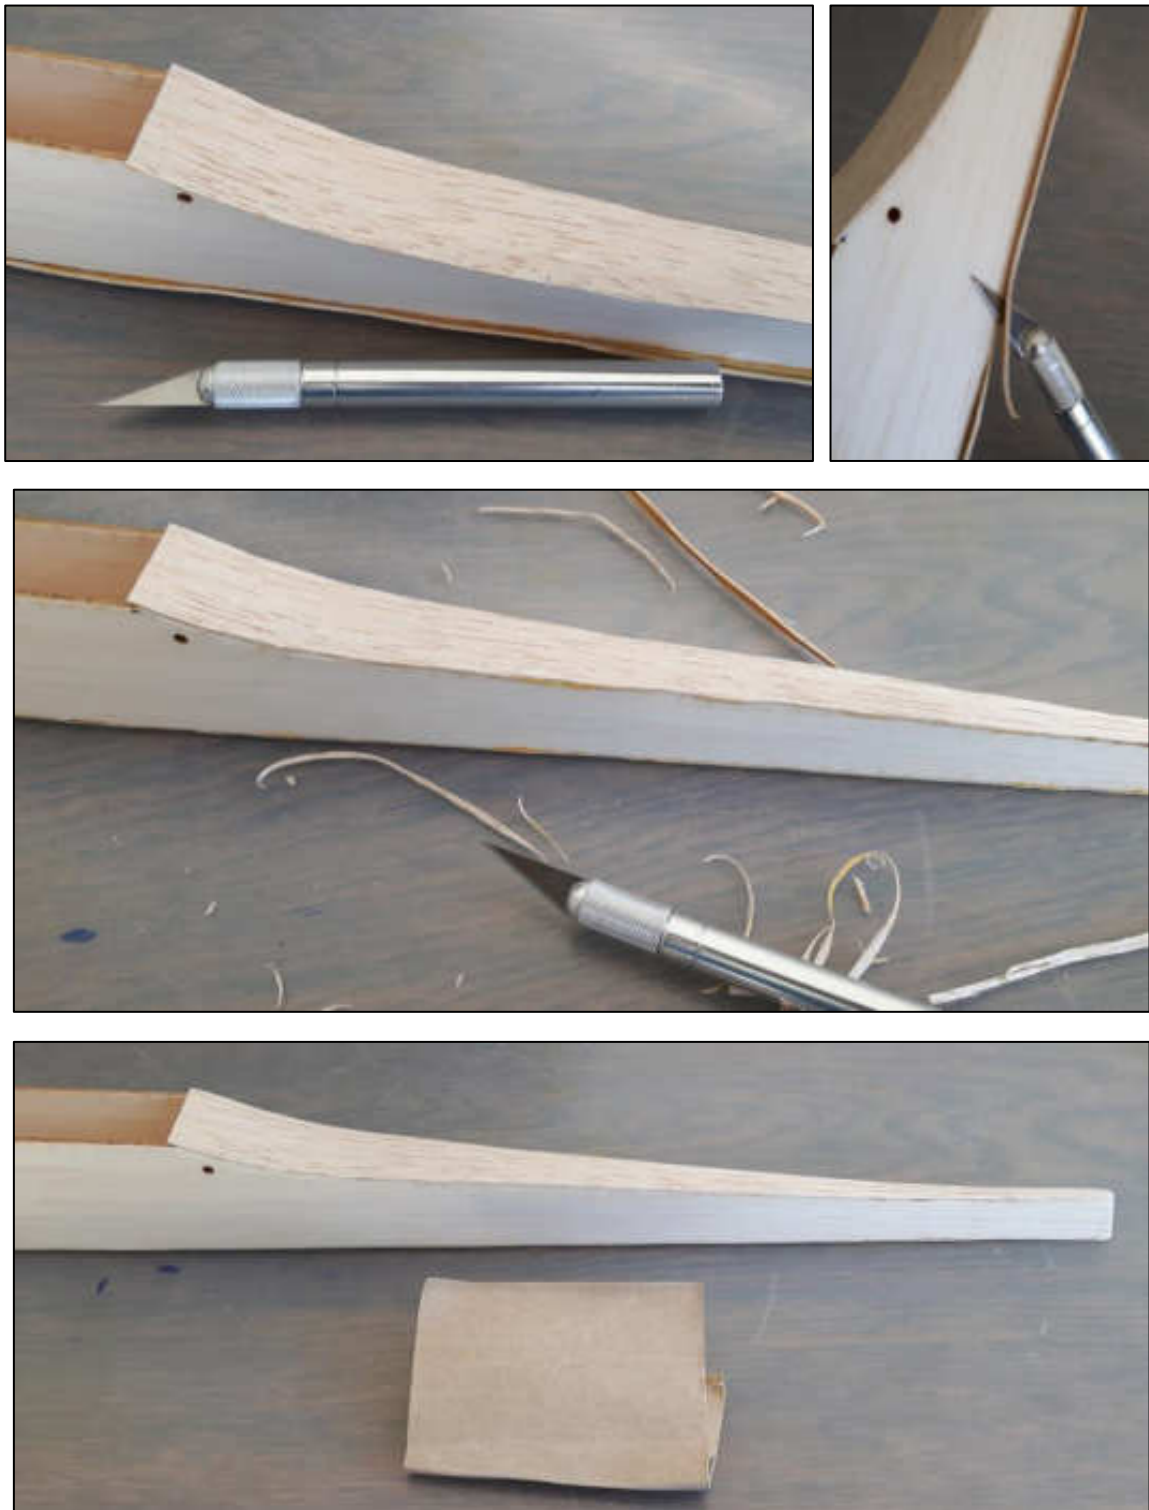

Figure 23: Trim the fuselage skin and sand the edges.
23. When the glue has dried, trim the excess fuselage skin using a knife. Use sand paper to make the edges smooth, Figure 23.